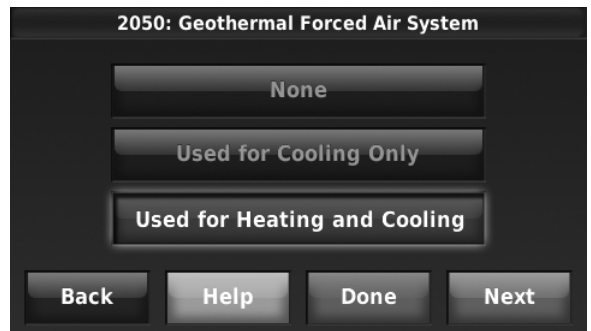

Fig. 205.
4. Select the Geothermal Radiant Heat Options. For example: If this zone is Geothermal Radiant Heat only – select None. See Fig. 205.